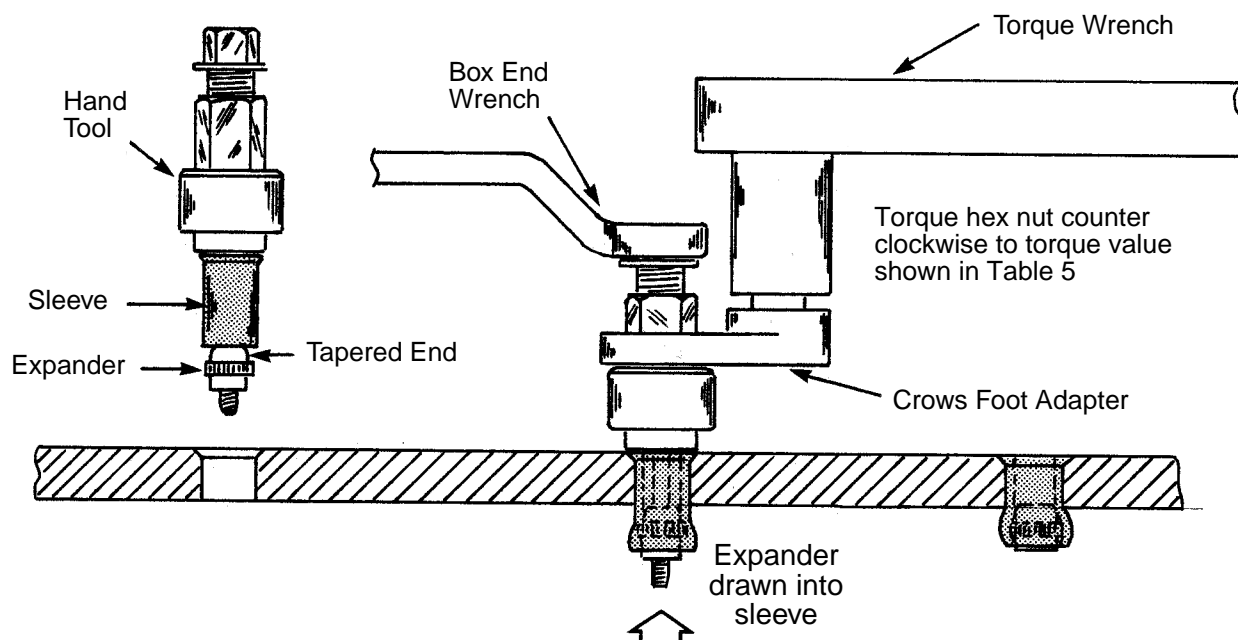

Figure 8 - Installation of Blind Nut using Hand Tools (typ.)
5.7.1 Install blind nuts using hand tools as follows (see Figure 8):